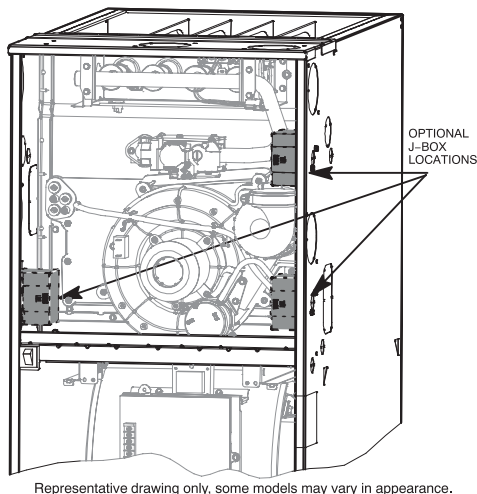

Fig. 33 - Installing J-Box (When Used)
The J-Box cover, mounting bracket and screws are shipped in the loose parts bag included with the furnace. See Fig. 33 for J-Box mounting locations.
1. Install J-Box mounting bracket to inside of furnace casing. See Fig. 33.
5. Connect field ground wire and factory ground wire to green ground screw on J-Box mounting bracket as shown in Fig. 33.
7. Attach furnace J-Box cover to mounting bracket with screws supplied in loose parts bag. Do not pinch wires between cover and bracket. See Fig. 33.
4. Connect field ground wire and factory ground wire to green ground screw on J-Box mounting bracket as shown in Fig. 33.